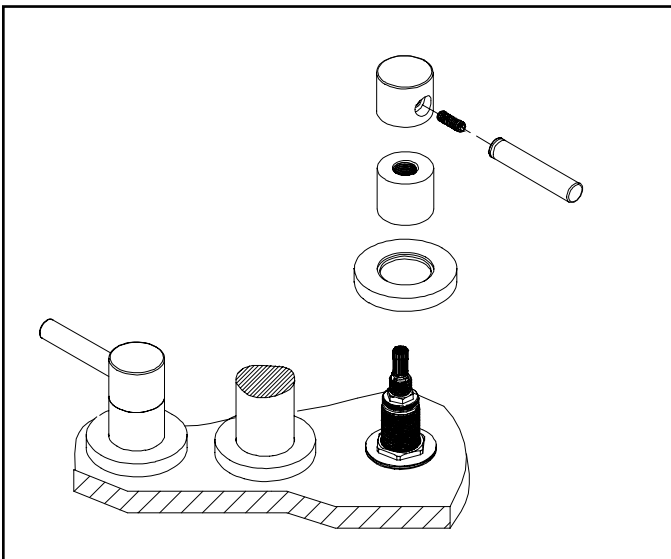

Figure 3
5. Attach escutcheon/bonnet to valve. Remove handle lever from handle. Place handle onto valve stem. Any adjustments for rotational alignment must be made to the valve body - not to the cartridge. Secure handles into place with setscrew. (Note: Allow minimum spacing between handles and escutcheon/bonnet to prevent damage to the surface finish.) Reattach handle lever. See Fig. 3